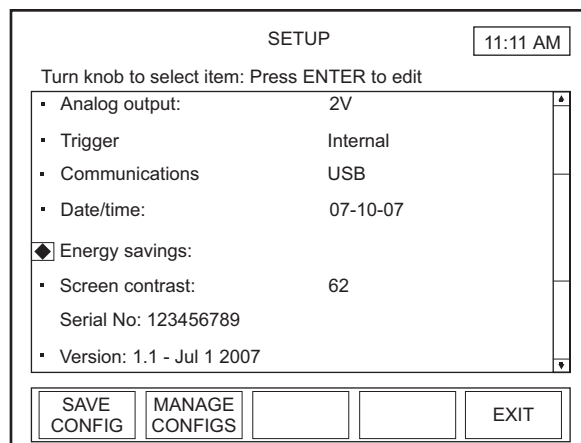

Figure 68. SETUP: Energy Savings
1. On the main SETUP screen, turn the Selection knob to move the diamond indicator to Energy Savings (Figure 68).